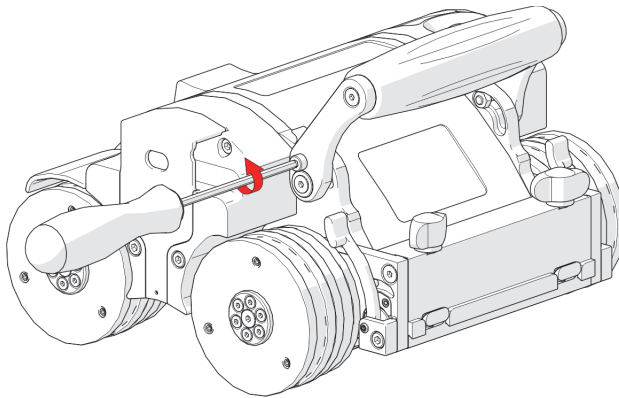

Figure 2-14 Unscrew handle lock screws
1. Use the supplied 3 mm hex driver to loosen the handle lock screws on either side of the handle (see Figure 2-14 on page 56).